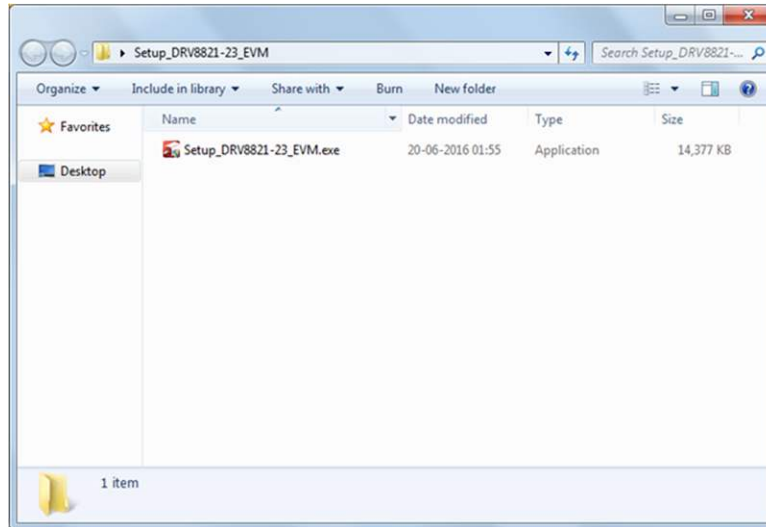

Figure 3. Setup_DRV8821/DRV8823_EVM.exe
1. Double click on the **Setup_DRV8821/DRV8823_EVM.exe** as shown in Figure 3.